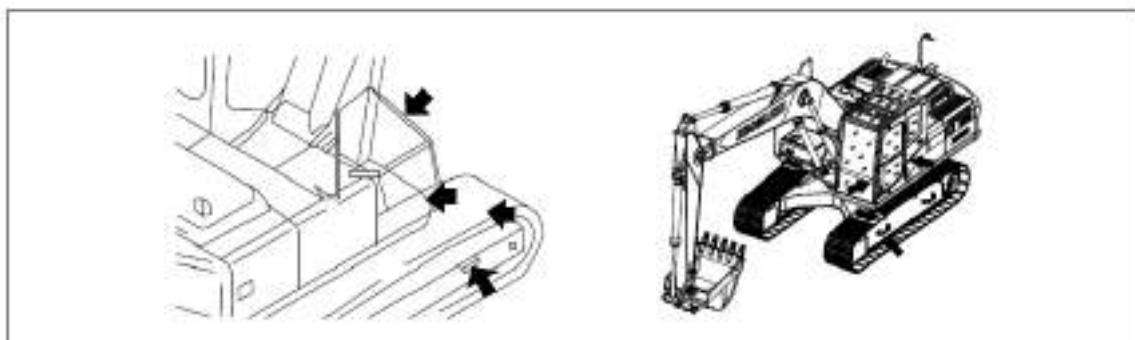

Figure 1-47 Support parts marked by arrows
- a) When getting on or off the machine, please use the handrails, stairs and track shoe support marked by the arrows in Figure 1-47.